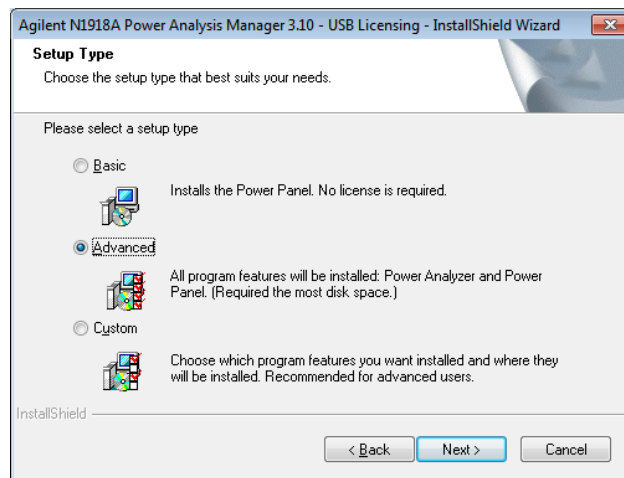

Figure 7 Select the N1918A setup types
- 11 The Setup Type dialog box appears, as shown in **Figure 7**. Select **Basic**, **Advanced**, or **Custom**. The *Basic* setup installs the Power Panel while the *Advanced* setup installs all program features including the Power Analyzer and Power Panel.
- 9 The Setup Type dialog box appears, as shown in **Figure 7**. Select **Basic**, **Advanced**, or **Custom**. The *Basic* setup installs the Power Panel while the *Advanced* setup installs all program features including the Power Analyzer and Power Panel.